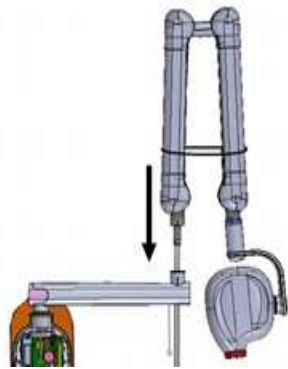

Figure 27
- Take the scissor-arm and insert the cables into the straight arm as shown in Figure 27 .
- Fix scissor arm assembly on to the straight arm as shown in Figure 27.